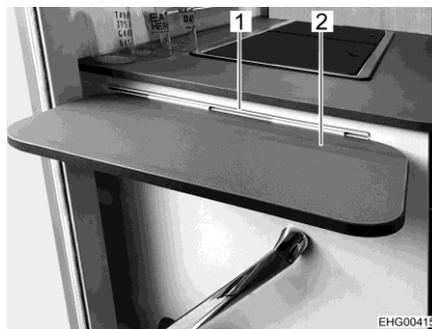

Fig. 11 Kitchen extension board
- ▶ In the event of an accident or emergency braking, the kitchen extension board could injure the occupants of the vehicle. Before setting off, detach kitchen extension board (Fig. 11,2) from the rail (Fig. 11,1) and store securely.